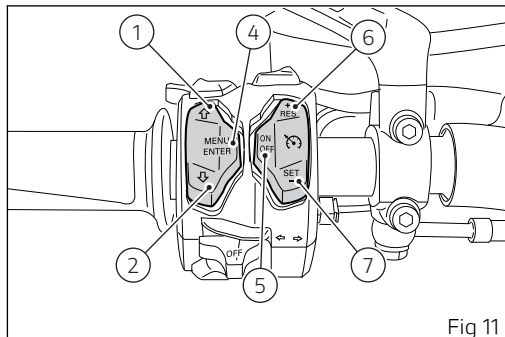

Fig 11
6) CRUISE CONTROL BUTTON - RES (Resume) / + (more) (Fig 11)
7) CRUISE CONTROL BUTTON - SET (Setup) / - (less) (Fig 11)